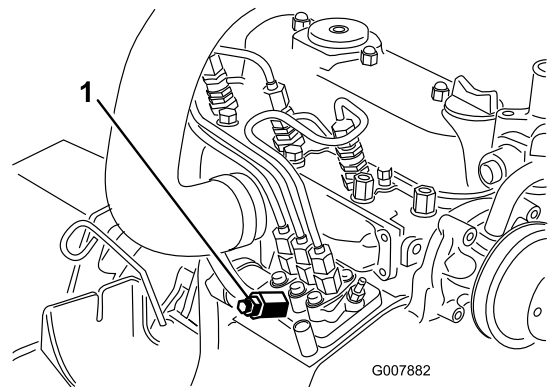

Figure 49
3. Place a rag under the air bleed screw on the fuel injection pump and open it (Figure 49).